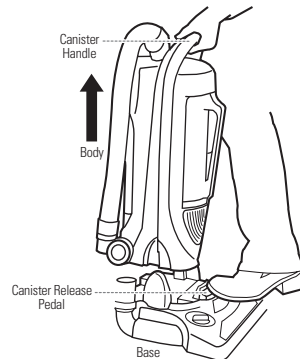

Fig. 17
2. Step on Canister Release Pedal and pull body upward by canister handle. (Fig. 17)